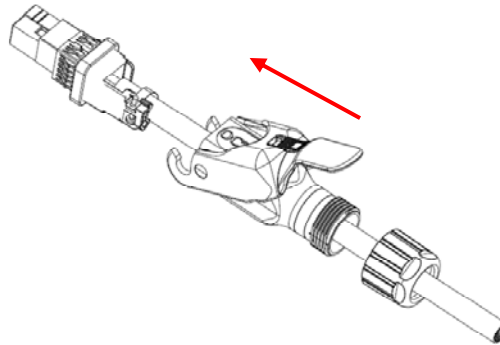

Figure 36
9. Open the lever of “housing sub set kit combo power/signal” and push it against the cable assembly so that it gets fixed as a unit. (Fig 36) .